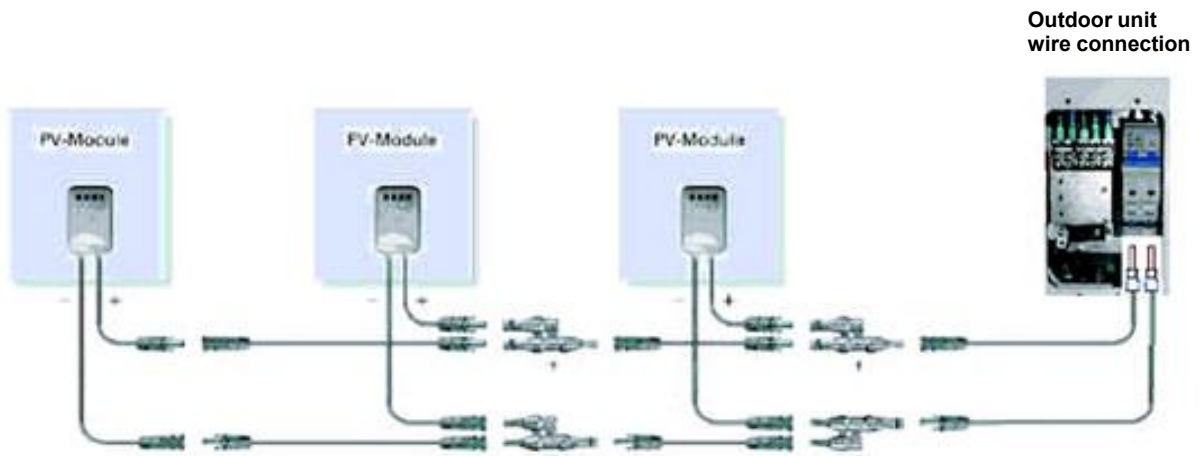

Fig.52b
- Connection method B: Using a 3m extension cord during connection if the modules are distant apart, see Fig.52b.